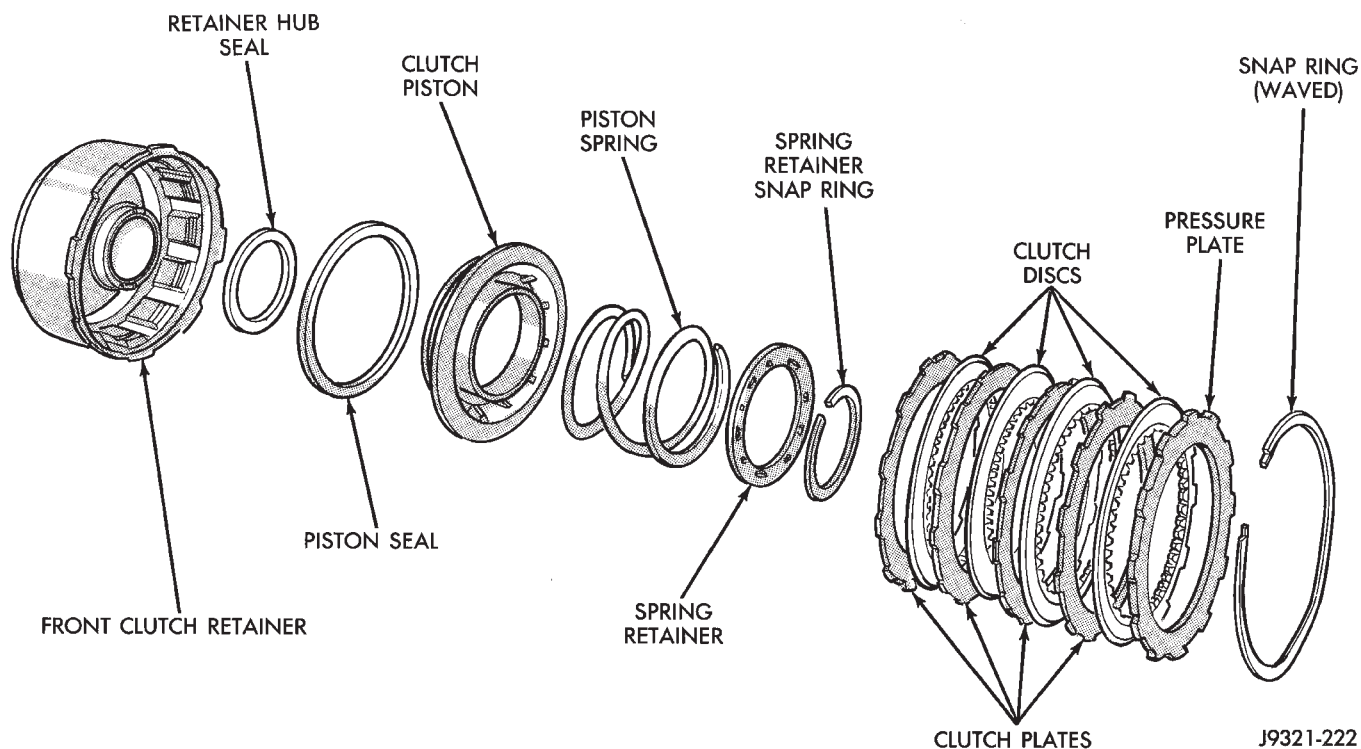

Fig. 57 Front Clutch Components (30RH/32RH)
(1) Remove waved snap ring and remove pressure plate, clutch plates and clutch discs (Fig. 57).
(8) Install clutch plates and discs (Fig. 57). Install steel plate then disc until all plates and discs are installed.
(9) Install pressure plate and waved snap ring (Fig. 57).